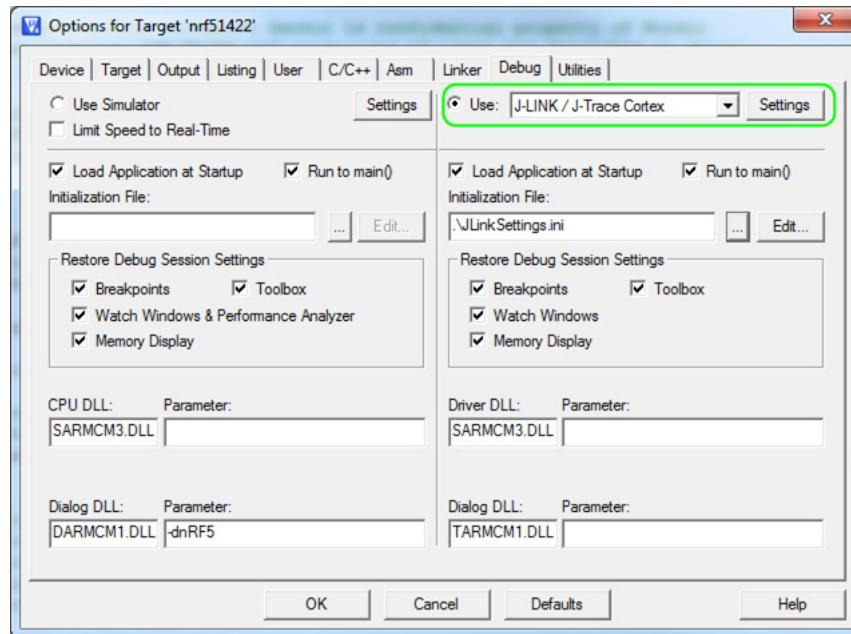

Figure 39 Selecting J-Link debugger in Keil
3. Under the **Debug** tab in the Use list, select **J-LINK / J-Trace Cortex** option as shown in *Figure 39*.
4. Click **Settings** as shown in *Figure 39*. Both the SEGGER Control Panel and the Keil Target Driver Setup will open.